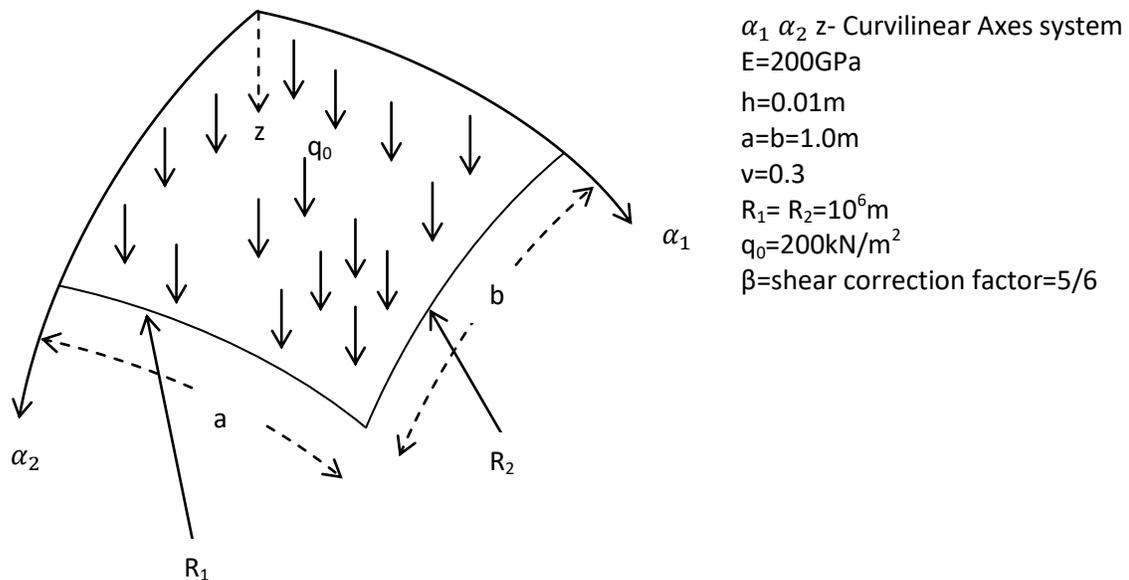

Fig.1 Simply supported doubly curved shell panel
- Q.1. The mid-surface of a doubly curved shell panel, simply supported on all four sides is shown in **Fig.1**. This shell panel is subjected to uniformly distributed load(q_0) as shown in the figure. Write the five governing differential equations in terms of displacements considering the effect of transverse shear strains. Solve these five equations for the given data by Navier's method and discuss the results. [20]